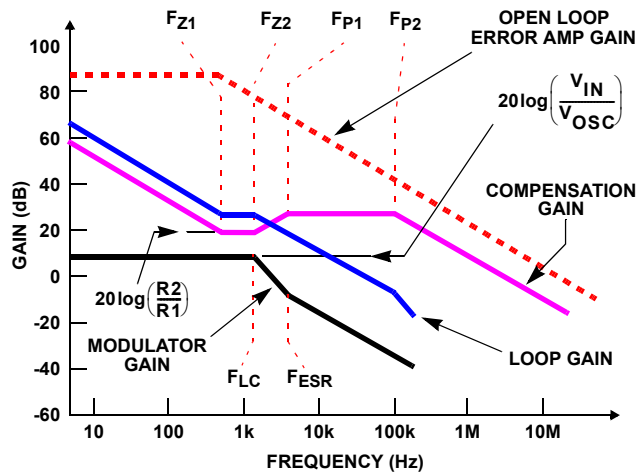

FIGURE 8. ASYMPTOTIC BODE PLOT OF CONVERTER GAIN
Figure 8 shows an asymptotic plot of the DC/DC converter's gain vs frequency. The actual Modulator Gain has a high gain peak due to the high Q factor of the output filter and is not shown in Figure 8. Using the above guidelines should give a Compensation Gain similar to the curve plotted. The open loop error amplifier gain bounds the compensation gain. Check the compensation gain at FP2 with the capabilities of the error amplifier. The Closed Loop Gain is constructed on the graph of Figure 8 by adding the Modulator Gain (in dB) to the Compensation Gain (in dB). This is equivalent to multiplying the modulator transfer function to the compensation transfer function and plotting the gain. The compensation gain uses external impedance networks ZFB and ZIN to provide a stable, high bandwidth (BW) overall loop. A stable control loop has a gain crossing with -20dB/decade slope and a phase margin greater than 45°. Include worst-case component variations when determining phase margin.